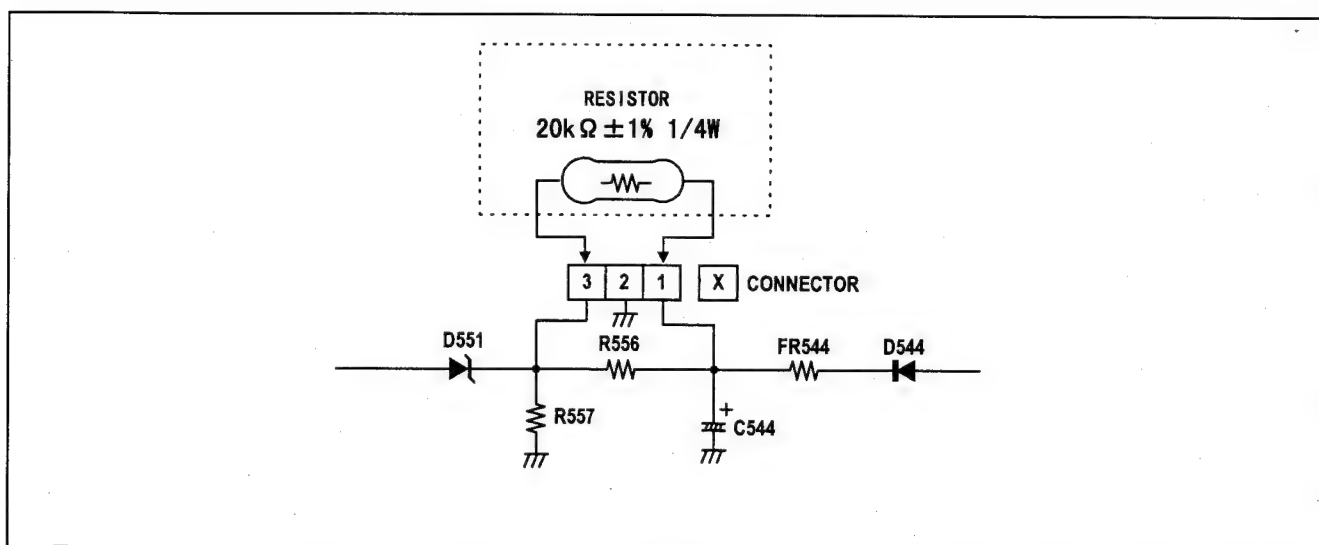

Fig.2
- (1) Turn the POWER SW ON.
- (2) As shown in Fig.2, set the resistor (between ☐ connector 1 & 3 ).
- (3) Make sure that the screen picture disappears.
- (4) Temporarily unplug the power plug.
- (5) Remove the resistor (between ☐ connector 1 & 3 ).
- (6) Again plug the power plug, make sure that the normal picture is displayed on the screen.